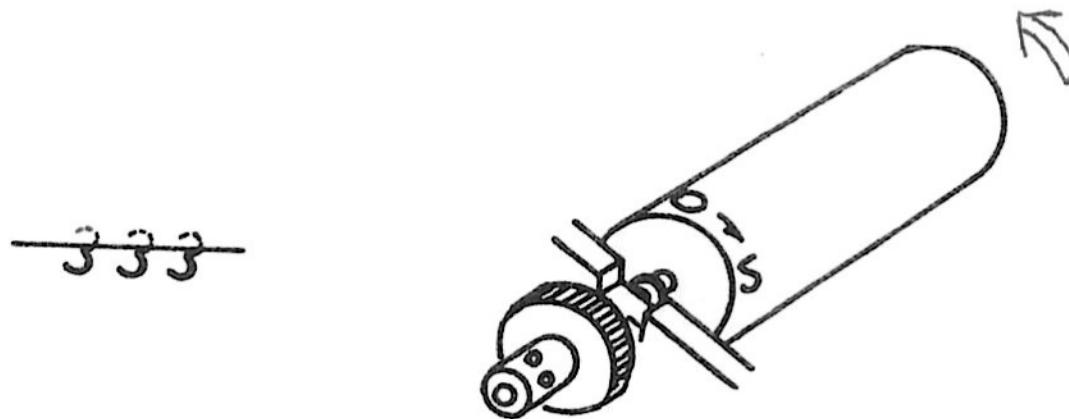

Fig. 12
- B) If upper part of characters is not printed, loosen setscrews and slightly turn print wheel in direction of arrow in Fig. 12.